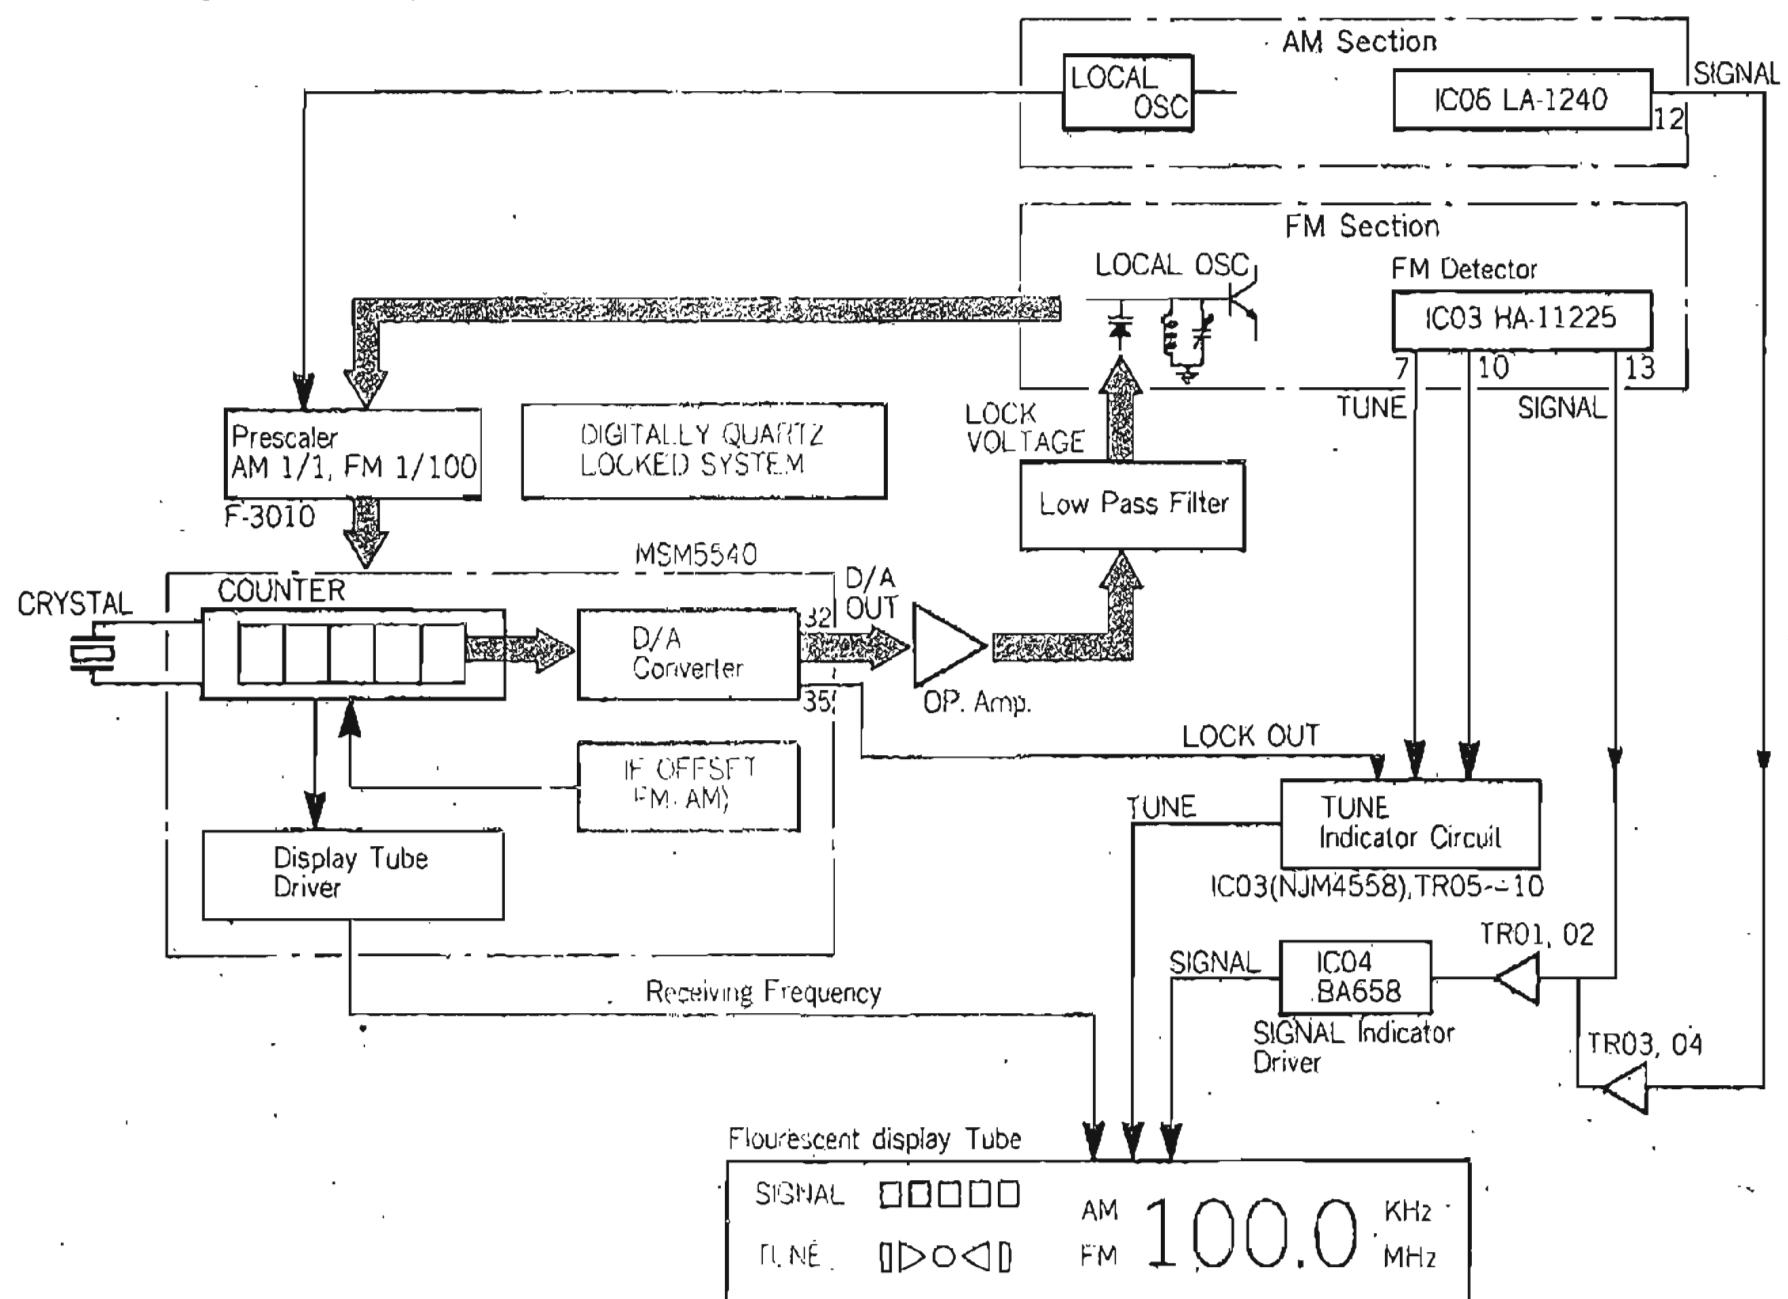

Fig. 2-5 Output of D/A Converter
- The practical output of D/A converter (D/A OUT) is as shown in Fig. 2-5. If the local oscillating frequency is raised from the locked frequency for some reason, the output of D/A converter decreases than that of reference voltage, which makes lock voltage applied to varactor dropping. When the reverse voltage (lock voltage) applied to varactor is decreased, the junction capacitance of varactor is enlarged that the oscillating frequency becomes lowered till lock frequency.